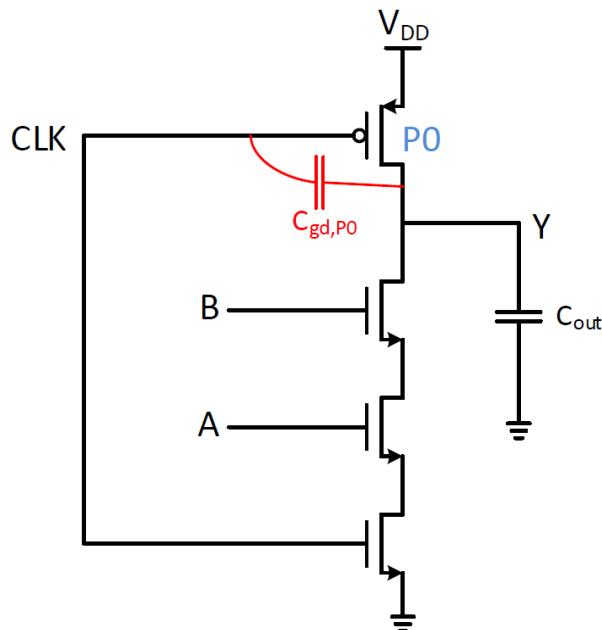
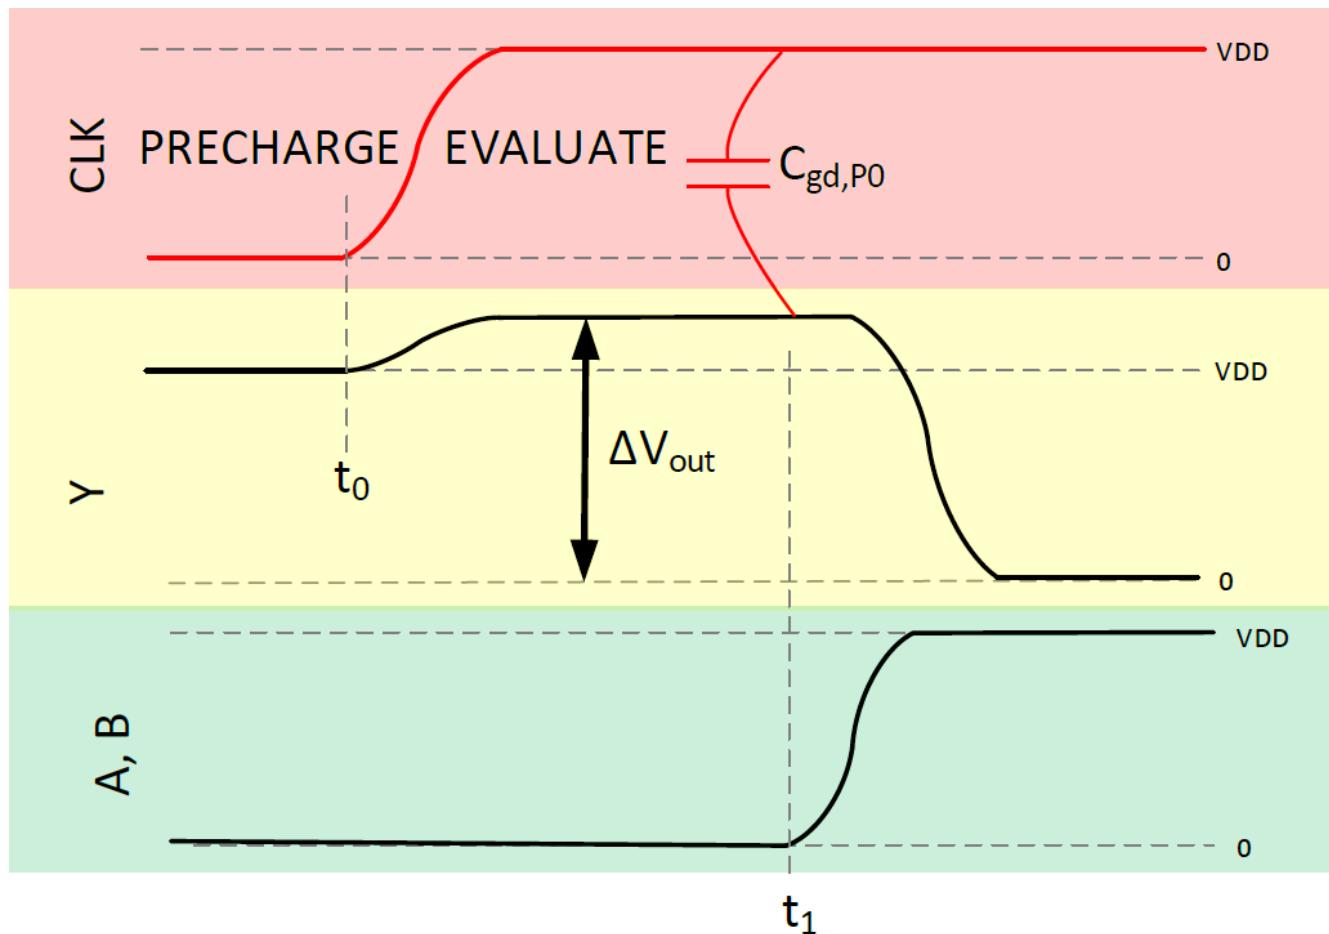

Figure 15: Clock feedthrough problem
Figure 16: Signal flow diagram corresponding to the dynamic gate of Figure 15
The main reason of this problem is the fact that the output node has no pull-down path at the low to high clock transition (i.e. the transition from precharge phase to evaluation phase). The Figures 15 and 16 would be helpful to observe the situation. By the time the clock signal makes a low to high transition at  $t_0$  (Figure 16), it affects the voltage at the output node due to the coupling capacitance ( $C_{gd,PO}$ ). This results in a stationary increase at the precharged output node. When one of the input signals change in a way that the output falls at  $t_1$ , it should fall down with a higher swing ( $\Delta V_{out}$ ), which increases the delay of the gate.
**Case Study 4:** On Figure 15 and Figure 16 it is given that